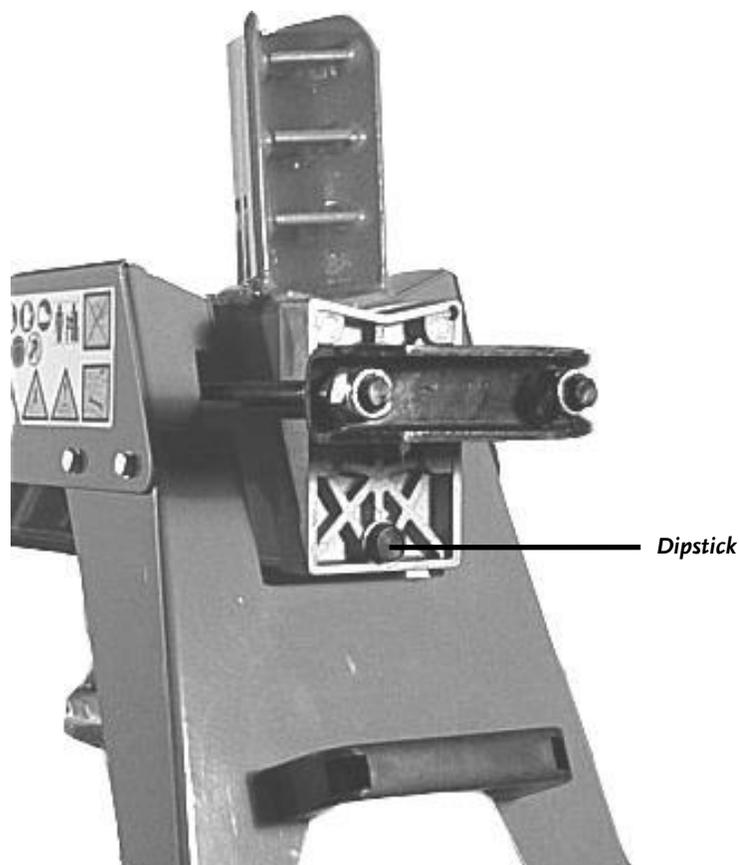

Figure 4
6. Clean the area around the Hydraulic Fluid Fill/Drain Port (**Figure 4**) and then, using the adjustable wrench, unscrew the Dipstick located in the Hydraulic Fluid Fill/Drain Port.
2. Clean the area around the Hydraulic Fluid Fill/Drain Port. It is important not to let any debris enter the fluid reservoir; see **Figure 4** on page 14. Loosen the Bleed Screw and then, using the adjustable wrench, unscrew the Dipstick located in the Hydraulic Fluid Fill/Drain Port.